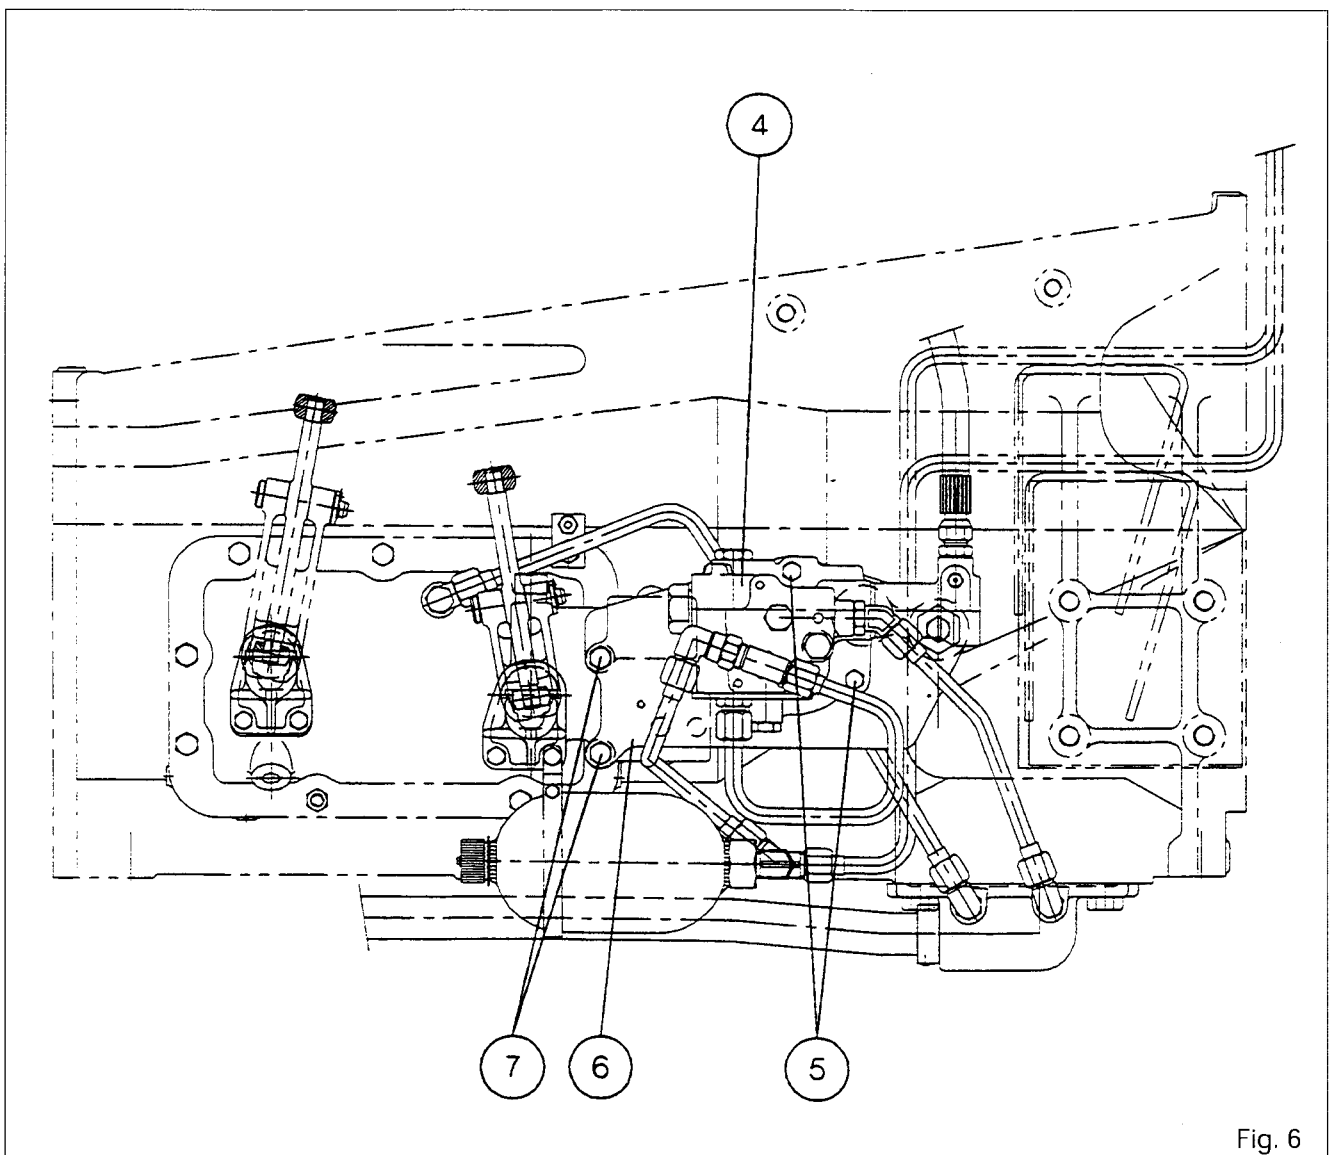

Fig. 6
D. Removing and refitting the control valve (Fig. 6)**Removal**